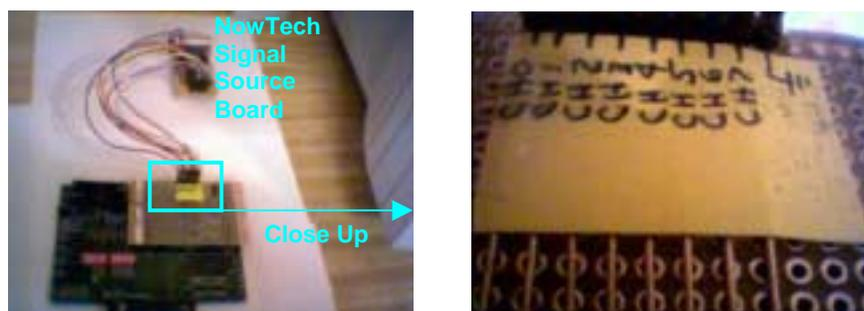

Figure 6: Signal Source Board Setup
3. Connect the NowTech Expansion Board to a signal source. As a simple test case, NowTech created a Signal Source Board consisting of a separate CoolRunner XPLA3 CPLD programmed with a counter pattern. Figure 6 below shows the NowTech Signal Source Board connected to each of the eight input channels as well as ground.